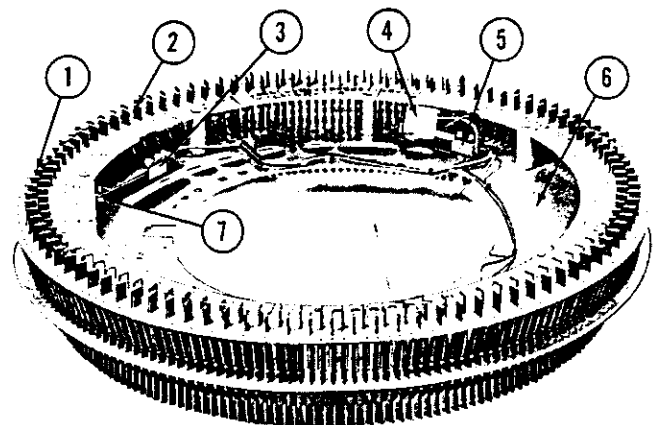

Fig. 13. SELECTOR PLATES AND LATCH PIN ASSEMBLY 111129
(1) The selector plates and latch pin assembly (Fig. 13) is made up of two types of latch pins i.e. 100 latch pins (inner) shown at Item 2, Fig. 13 and 100 latch pins (outer) shown at Item 1. Mounted on the lower plate and spacer assembly (Item 6) are four over-ride switches (Items 3 and 5) that are actuated by a "wobble ring and spacer" assembly (Item 7). The wobble ring rests on the inner shoulders of the 200 latch pins, underneath the lower plate and spacer assembly. When one or more of the latch pins are released, by action of the rocker arms, the wobble ring will be displaced to actuate one or more of the four, parallel wired, over-ride switches. Closing of the over-ride circuit starts the playing cycle of the record changer.
(2) The rotating plate and rocker assembly is described in detail in sub-paragraph (2), page 14, section 5 of this volume.
(3) The selector casting and solenoid assembly is described in detail in sub-paragraph (3), page 14, section 5 of this volume.
(4) The mounting casting and stop solenoid assembly is described in detail in sub-paragraph (4), page 15, section 5 of this volume.